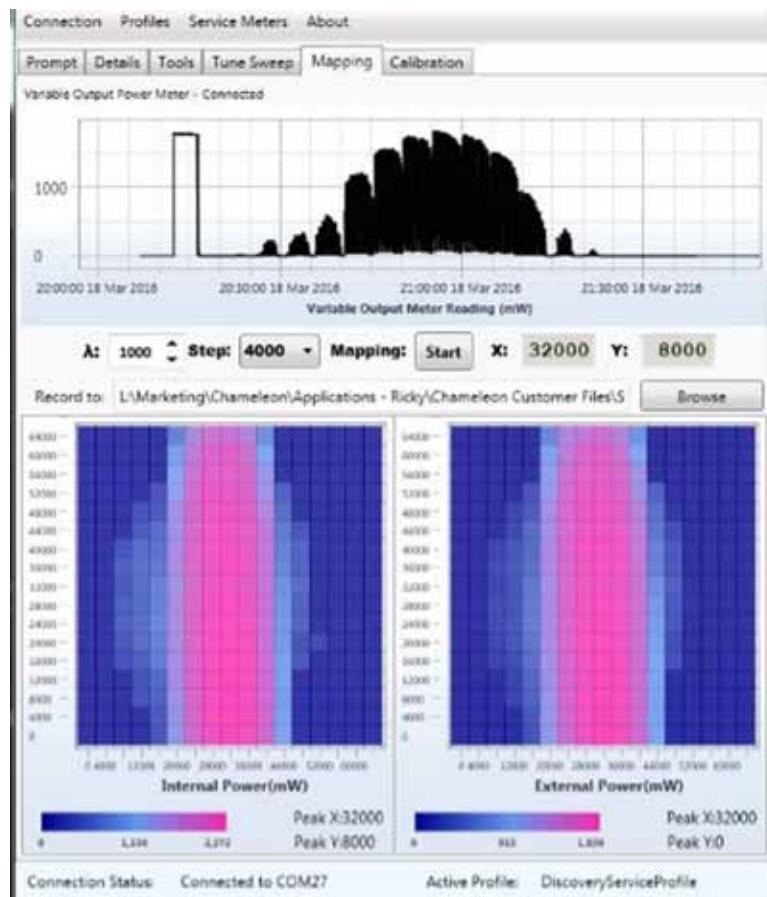

Figure 1.2-20. Mapping Menu
- e. Begin the procedure by clicking the Start button. See Figure 1.2-20.